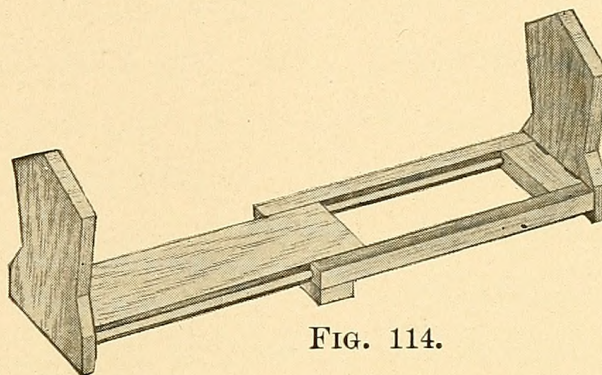

FIG. 114.
**An Extension Book-rack** is a little more complicated to make than the above two, but the work is not difficult. The rack shown in Fig. 114 is 16 inches long between the ends when pushed together and  $28\frac{3}{4}$  inches long when extended. Figure 121 shows the details for this rack. The base is made out of a 1-by-4-inch tongued-and-grooved board, a piece about 3 feet long being required, while the end pieces are cut out of 1-inch stock. The idea of using the tongued-and-grooved board for the base is that the tongues and grooves for the slides are